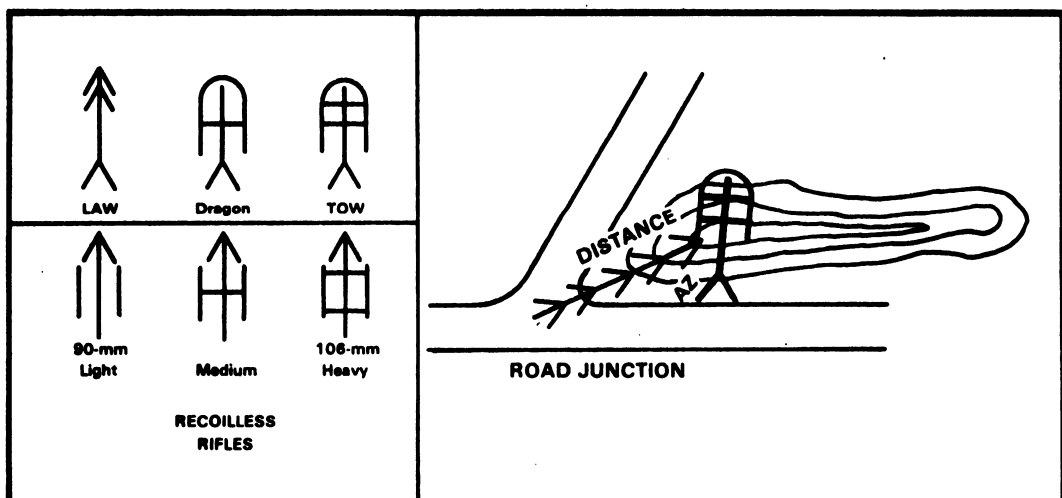

Figure 2
(1) In the lower center of your range card, indicate your firing position by drawing the symbol for your assigned weapon.
(2) Show the location of your firing position by drawing a sketch of a nearby recognizable terrain feature. Label it and draw an arrow to the weapon symbol. Add the distance and azimuth from the terrain feature to your firing position (fig. 2).